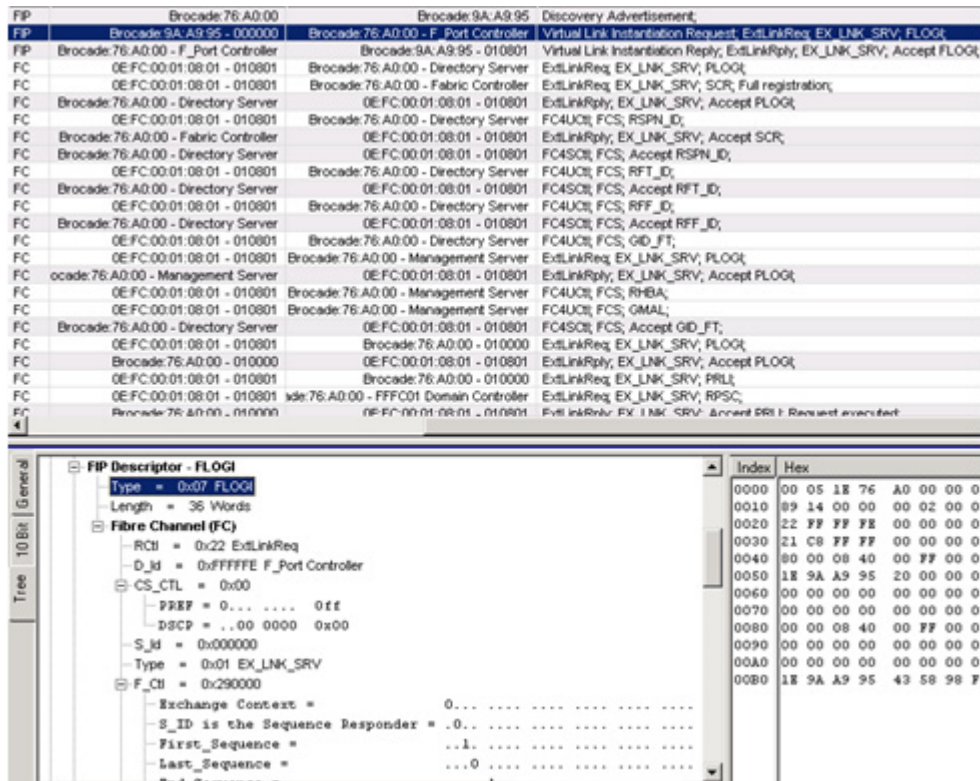

Figure 79 Fabric Login phase, example 1
- ◆ **FLOGI.** At fabric login, the attached device gets its 24-bit address. See the trace in Figure 79 on page 201. Notice that the FLOGI is carried inside by the FIP frame and not by the FCoE frame. This makes this message easy to intercept by intermediate switches.
- ◆ **LS_ACC.** If the FCoE switch accepts the FLOGI, it generates a LS_ACC frame, or an "Accept" message. This is carried inside by the FIP frame and not by the FCoE frame. LS_ACC is also encapsulated in FCoE frames for responses to other commands, such as State Change Registration (SCR, discussed further in this section). Once the attached device registers to the State Change, the FCoE switch will respond with LS_ACC. This "Accept" message is carried inside by the FCoE frame. See the examples from the trace shown in Figure 79.
- ◆ **PLOGI.** The device needs to log in to the Directory Server or Name Server. It is important to note that both the switch and CNA will perform PLOGI to each other. See the example from the trace shown in Figure 79. Figure 79 shows that the CNA is performing FLOGI. After that, both CNA and the switch perform PLOGI.